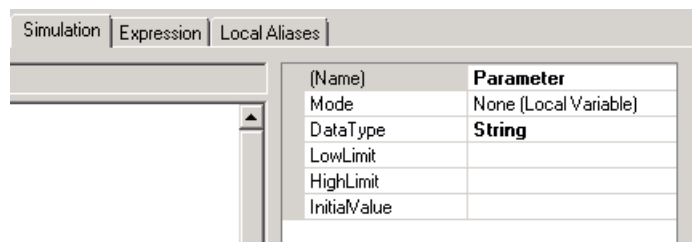

Figure 1 - Creating Empty Local Variable
3. Create a third process point which should be **Data Entry**. For data source enter a String local user variable with no initial value, similar to the variable in Figure 1.